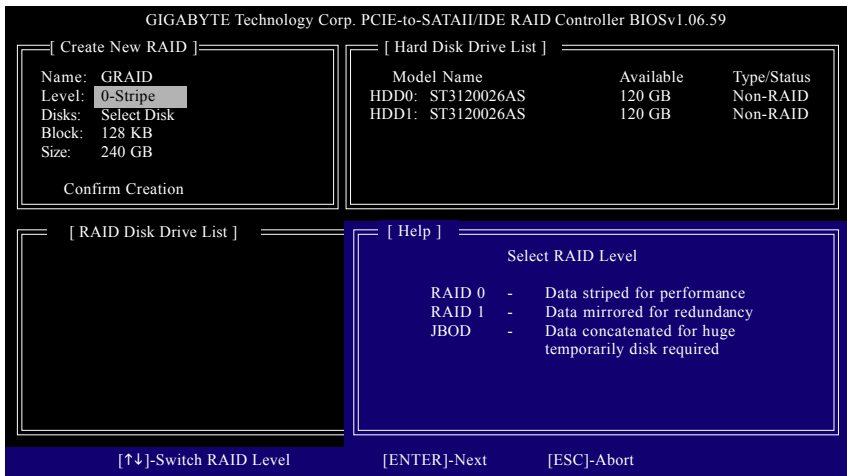

Figure 6
The **Create New RAID** block displays all the items that need to be set for creating an array (Figure 6).
2. **Select RAID Mode:** Under the **Level** item, use up or down arrow key to select RAID 0 (Stripe), RAID 1 (Mirror), or JBOD (Figure 6). Then press <Enter> to move onto the next step.